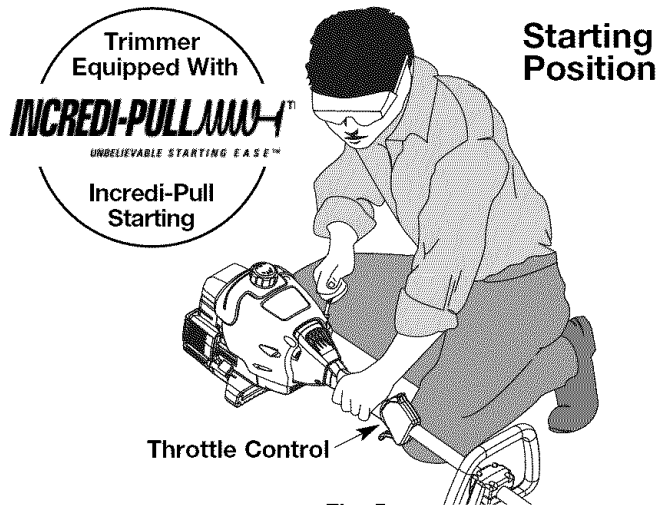

Fig. 5
**WARNING:** Avoid accidental starting. Make sure you are in the starting position when pulling the starter rope (Fig. 5). To avoid serious injury, the operator and unit must be in a stable position while starting.
4. Crouch in the starting position (Fig. 5). **Do not squeeze the throttle**, and pull the starter rope with a controlled and steady motion until the unit starts. Wait 10 to 15 seconds, then squeeze the throttle to control the cutting speed.